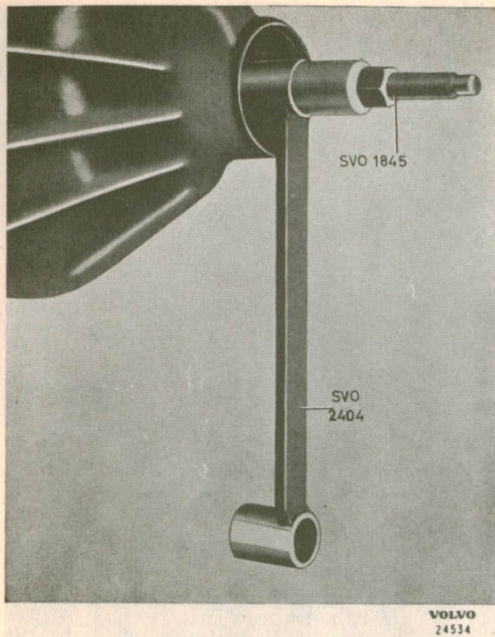

Fig. 5-22. Fitting the pinion
4. Place the pinion in the casing and fit the same number of shims (26) which were there when disassembling and then fit the forward pinion bearing (27). Fit the wrench SVO 2404 and the press tool SVO 1845 on the front end of the pinion and tighten in the pinion, see Fig. 5-22.